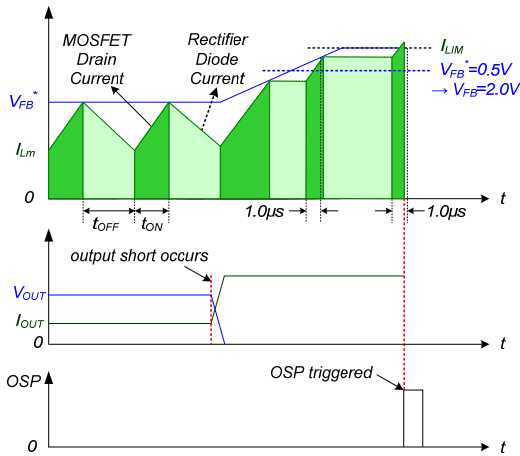

Figure 22. Output-Short Protection
4.3. Output-Short Protection (OSP): If the output is shorted, steep current with extremely high di/dt can flow through the SenseFET during the minimum turn-on time. Such a steep current brings high-voltage stress on the drain of the SenseFET when turned off. To protect the device from this abnormal condition, OSP is included. It is comprised of detecting V_{FB} and SenseFET turn-on time. When the V_{FB} is higher than 2.0V and the SenseFET turn-on time is lower than 1.0 μ s, this condition is recognized as an abnormal error and PWM switching shuts down until V_{CC} reaches V_{START} again. An abnormal condition output short is shown in Figure 22.